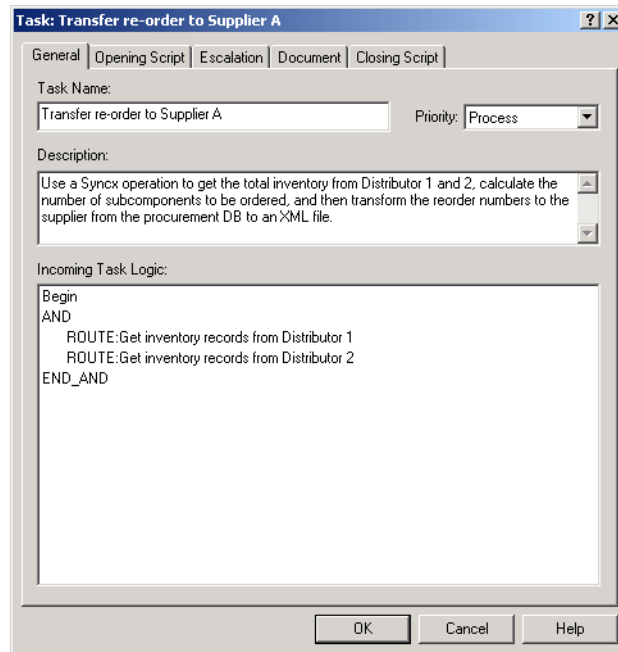

Figure 28-33. Transfer Reorder task with new AND group inserted.
- ❶ Right-click on the OR group directly underneath Begin, select **Change Operator Type**, then select **AND**.
- ❷ Your two source tasks will be nested within the new AND group. Compare your work to Figure 28-33, below.